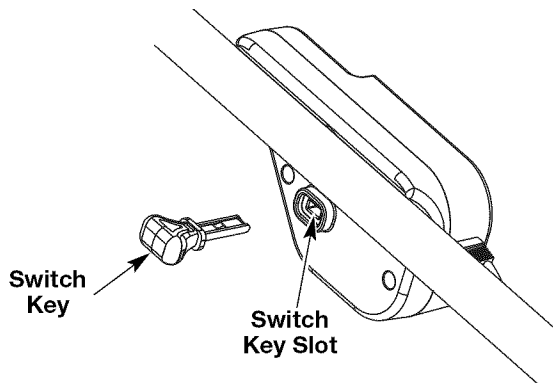

Fig. 4
2. Place the switch key into the switch key slot (Fig. 4)